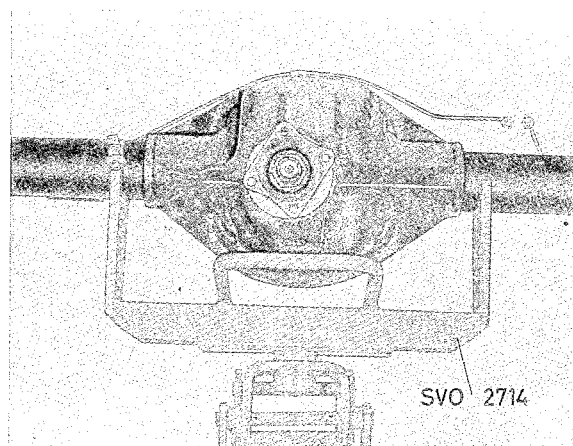

Fig. 4-161. Fixture for rear axle
1. Place the rear axle in fixture 2714, see Fig. 4-161, and push it in under the vehicle.